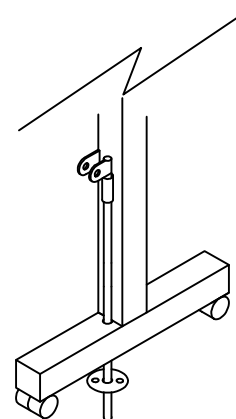

Fig 2.2.2
2.2.2 Sprung loaded dust covers for fitting into floors/surfaces, can be supplied for use with the dropbolts, if required. - Fig 2.2.2